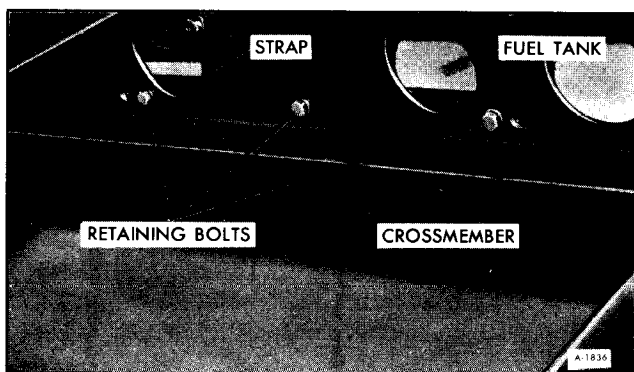

Figure 5—Removing Fuel Tank Strap Bolts
3. Remove 3 bolts from angle at front of tank as shown in Figure 5. If both tanks are to be removed, the forward tank should be completely removed.